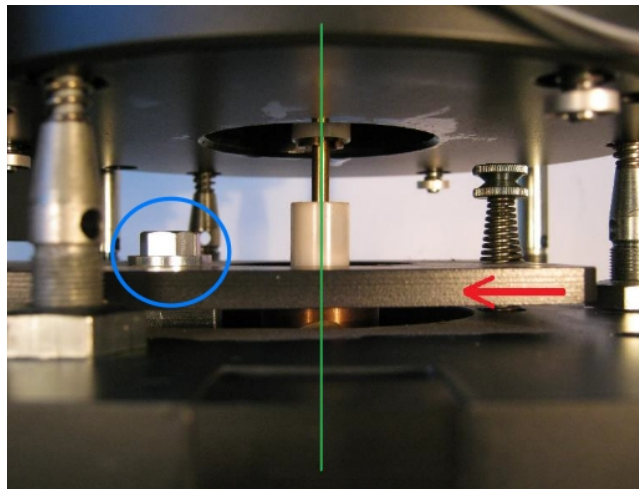

Figure 4: Cardan shaft
- Slightly move bottom trapezoidal plate, marked by the red arrow in Fig. 4, during the rotation of the sample. Move the plate to right, left, back and forward, **not up or down**.
- In ideal situation, axis of the cardan shaft is coaxial with the sample holder. Correct alignment of cardan shaft is marked by green line in Fig. 4.
- Adjustment can be done by the loosening two screws, marked by the blue circle in Fig. 4, adjusting of the cardan position and tightening the screws.